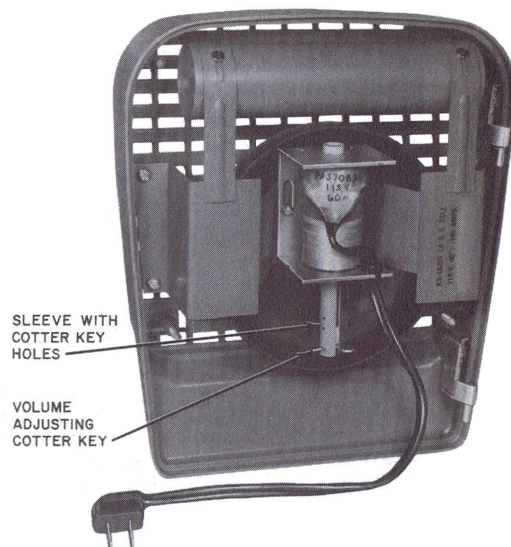

Fig. 10—KS-16301, List 4 Bell
5.02 The KS-16301, List 4 (single-stroke bell) uses a cotter key volume adjustment. The signal is shipped with the key inserted through the lowest of the three holes in the sleeve that contains the plunger for maximum volume. To decrease volume, move cotter key to intermediate or top hole in the sleeve (Fig. 10).